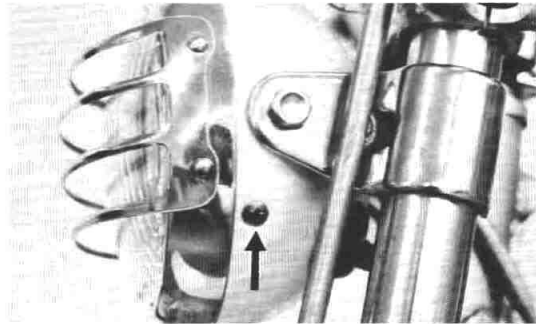

Fig. 5-8-1
1. Remove head light from headlight body. (Fig. 5-8-1)